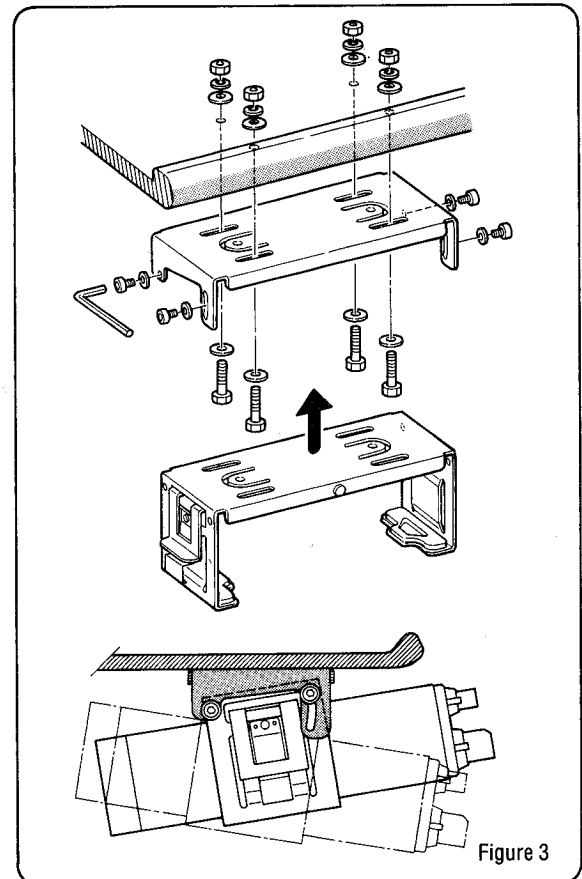

Figure 3
③ When the angle bracket is necessary, install it as shown in Figure 3. Installation angle is adjustable by unfastening four screws of the angle bracket.